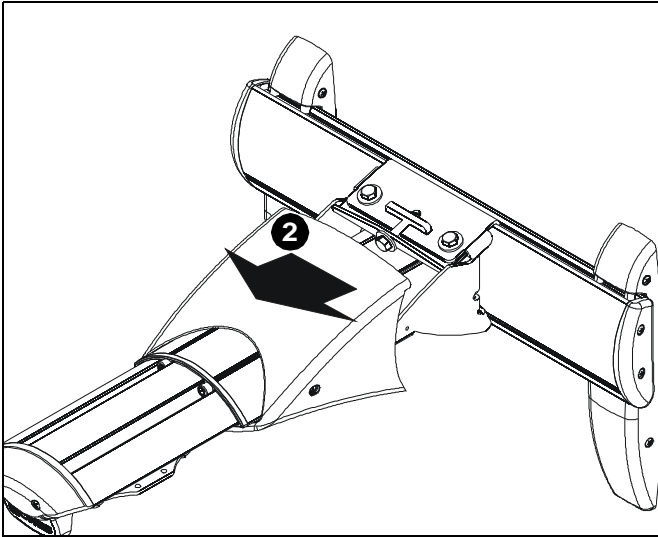

Figure 39
2. Slide outer cover of mount (A) away from mounting bracket to expose pitch adjustment screw. (See Figure 39)